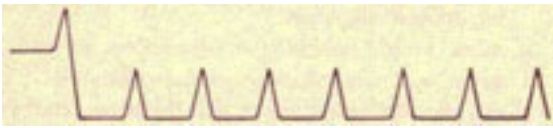

Figure 4 SF-3. Pattern for calibrating 2,000-yard range on 16,000-yard scale.
6. Set range dial (2), upper center, carefully to 1.75 on the *bottom* scale (1,750 yards).
7. Adjust 16,000-yard zero set (8), located on the lower left side of the range knob, with a screwdriver until the trace looks like figure 4 SF-3. That is, until the first range mark is on the edge of the step as illustrated. The right side of the first range mark, makes an almost straight line from its peak to the bottom of the step.